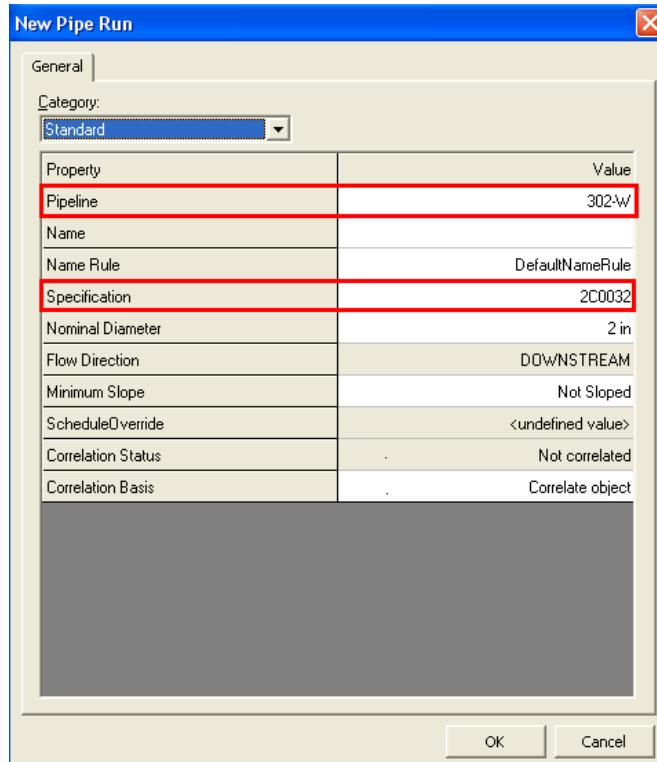

Figure 5: Specifications on New Pipe Run Dialog Box
- The **New Pipe Run** dialog box appears as shown in Figure 5. Change the following specifications in the dialog box and click **OK** :